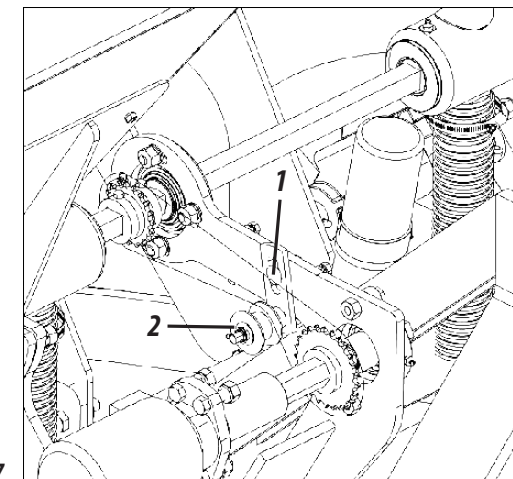

Figure 17
CHAIN TIGHTNESS (FIGURE 17)
- 1- Loosen the screw (1), slide the stretcher (2) until the required tightness. Then, retighten the nut, as shown in **Figure 17**.